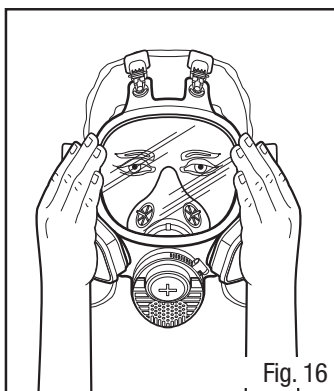

Fig. 16
1. Place palms of hands to cover face of cartridge or open area of filter retainers and inhale gently. If you feel facepiece collapse slightly and pull closer to your face with no leaks between the face and facepiece, a proper seal has been obtained (Fig. 16).